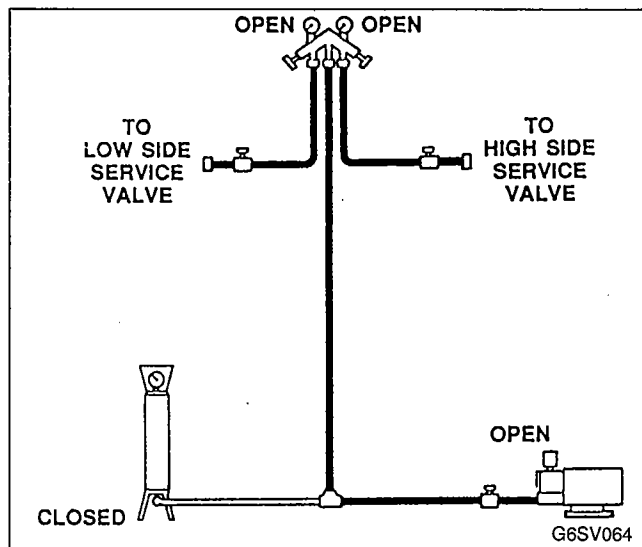

FIGURE 71. EVACUATION OF SELF-CONTAINED SYSTEMS
- b. Discharge service valve.Connect manifold gauges, dial-a-charge (or weigh-in method), and vacuum pump to ice machine, Figure 71.
2. Open (backseat) high and low side ice machine service valves. Open vacuum pump valve. Open high and low side on manifold gauges. Refer to Figure 71.